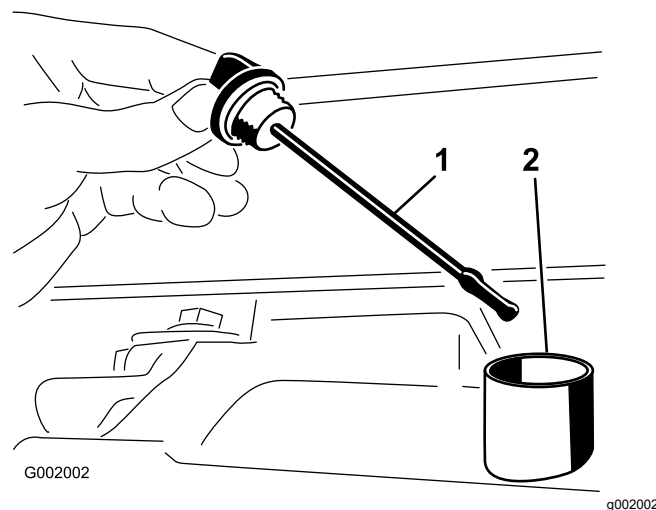

Figure 51
2. Remove the transaxle dipstick and wipe it with a clean rag (Figure 51).